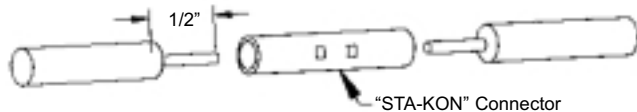

Figure 1 - Heat Shrink Splicing
- iii) Connect cable and lead ends with STA-KON or similar connectors (Figure 1).